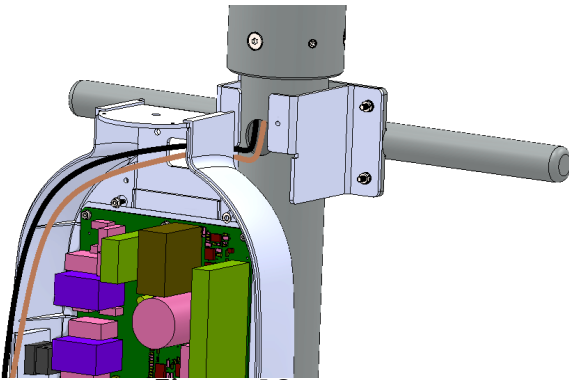

Figure 12
- Bring the base unit assembly near the base stand and route the wires through the hole located on the top side as shown in Figure 12.